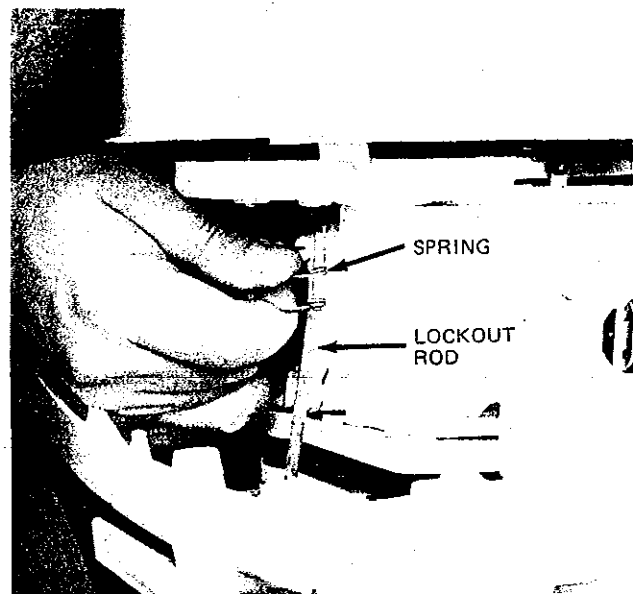

Figure 17
- (1) Move the shift lever to drive position.
- (2) Lower the engine onto the column while guiding the lockout rod and spring, if used, into position (Figure 17).
- (3) Rotate the propeller or engine crankshaft to make sure the clutch or crankshaft splines and drive shaft splines are properly engaged.